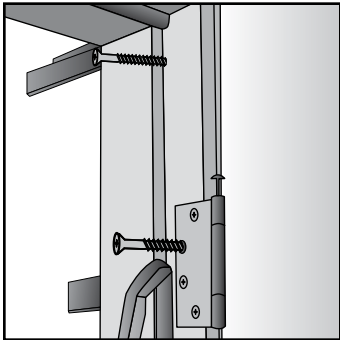

Fig. 26
- Fasten jamb leg to stud by using 3" corrosion resistant screws through both top and bottom pre-drilled anchor holes behind weatherstripping on hinge side jamb, drive two 2" brass finish screws into stud through hinge (**Fig. 26**). If applicable, drive 3" corrosion resistant screws through the jamb at strike plate location. Fasten head jamb by driving 3" screw through pre-drilled anchor holes behind weatherstrip.